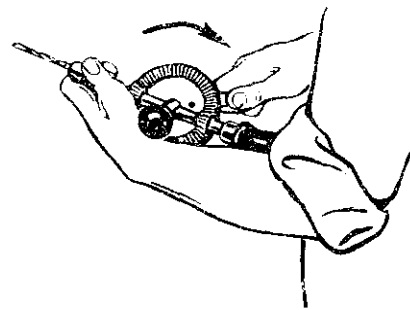

Fig. 10-50 Inserting a bit.
1. Open the chuck larger than the diameter of the bit and insert the bit. Tighten the chuck by pushing forward on the crank with the right hand, while holding the chuck shell with the left hand, figure 10-50.